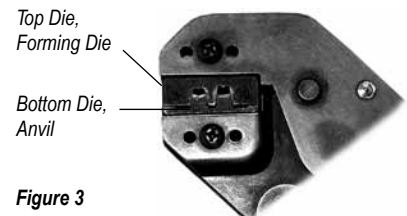

Figure 3
1. Assemble the desired die in the top position with the supplied screw. (See Figure 3)
2. Place the bottom anvil die in the frame. (See Figure 3)